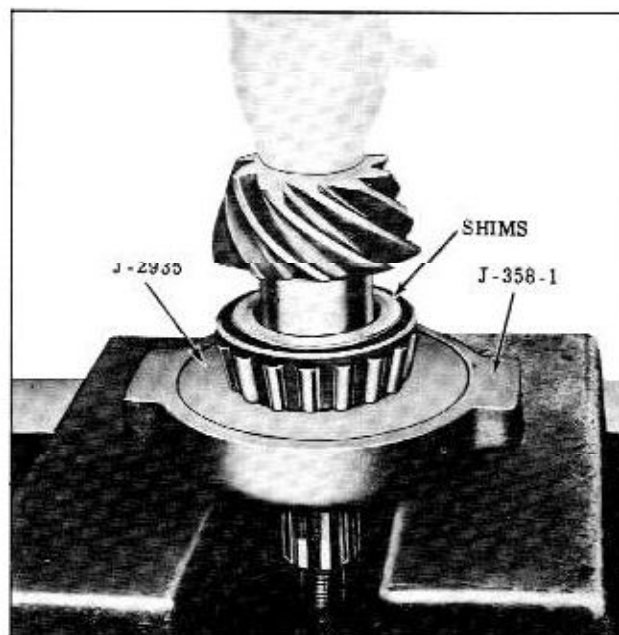

Fig. 6-31 Installing Bearing on Pinion Shaft
4. Lubricate the rear bearing roller assembly, then press the rear bearing inner race and roller assembly firmly in place against the shims on pinion shaft (Fig. 6-31)